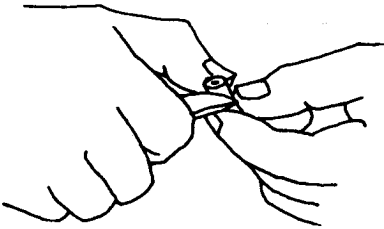

Figure 3.3.2E
- 2. Cut exposed silicone insulation with a sharp knife (See Figure 3.3.2E).